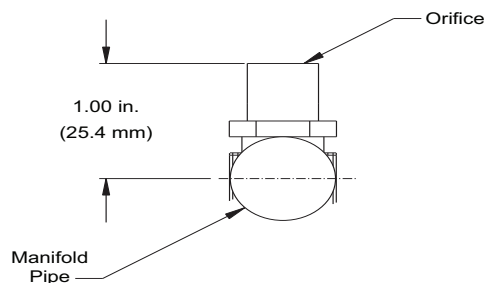

Fig. 55 — Orifice Projection
Refer to Fig. 55 for maximum projection dimension for orifice face to manifold tube.
5. If factory orifice has been removed, check that each orifice is tight at its threads into the manifold pipe and that orifice projection does not exceed maximum value. See Fig. 55.
Ensure each replacement orifice is tight as its threads into the manifold pipe and the orifice projection does not exceed maximum value. See Fig. 55.